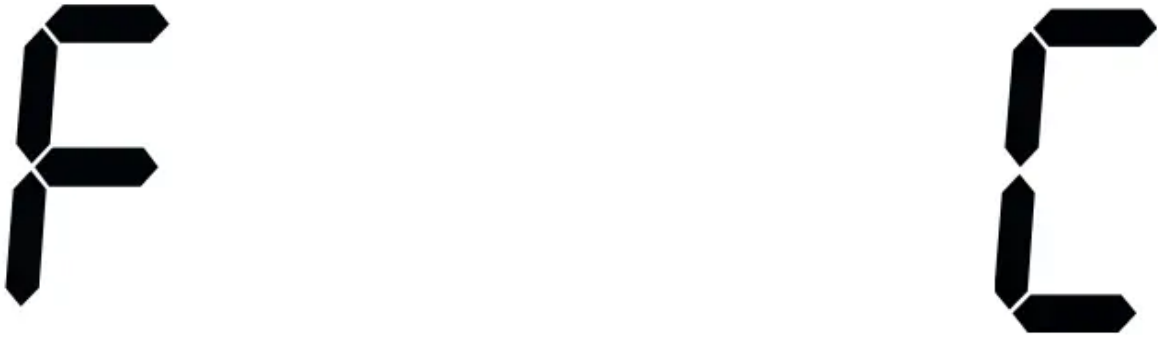

Figure 7: Display showing Fahrenheit and Celsius
2. Once F (or C) appears in the display, press Self Clean to toggle between Fahrenheit and Celsius temperature display modes (Figure 7).